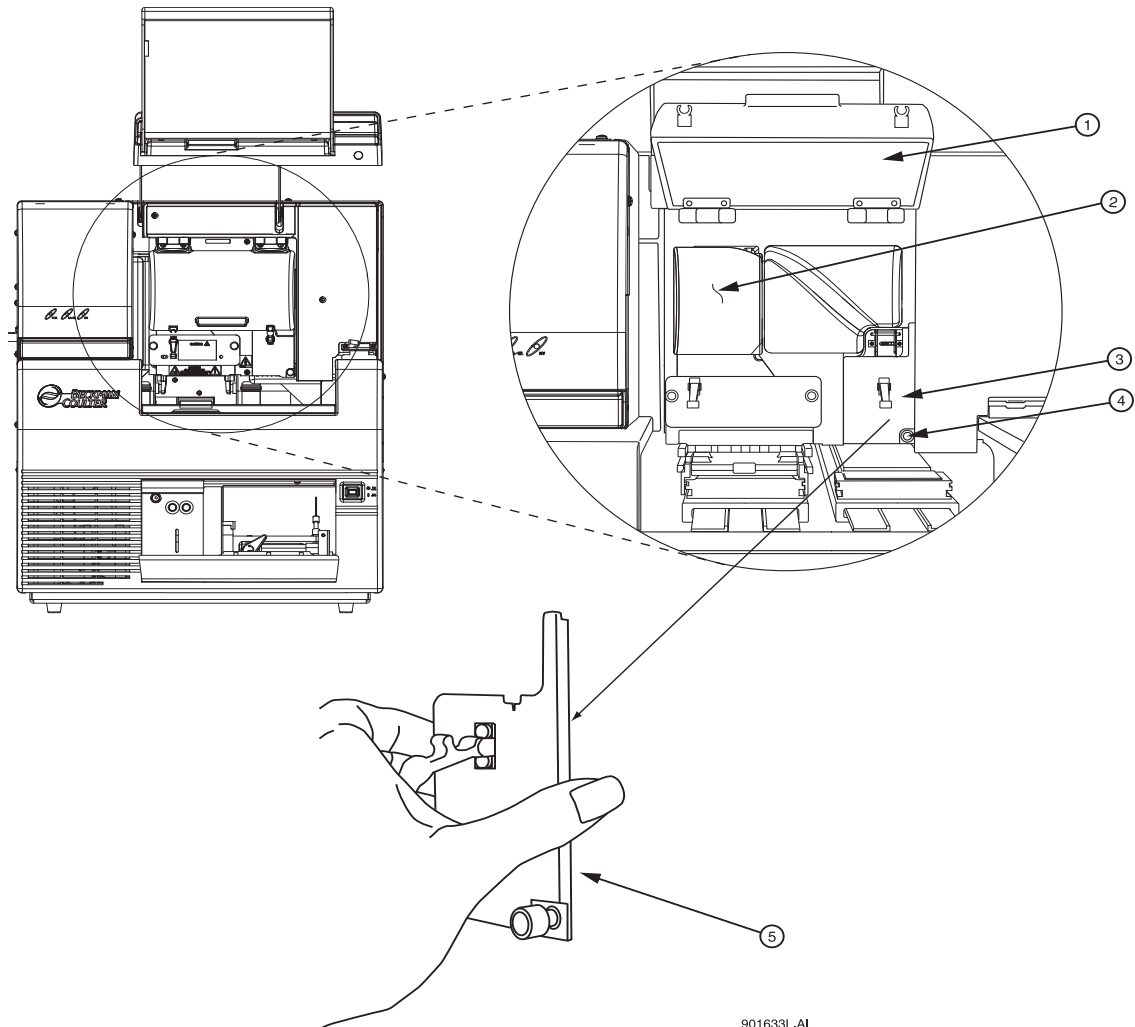

Figure 9.2 Manifold Access Cover
6. Loosen the manifold access cover captive screw (Figure 9.2), remove the cover, and set it aside.